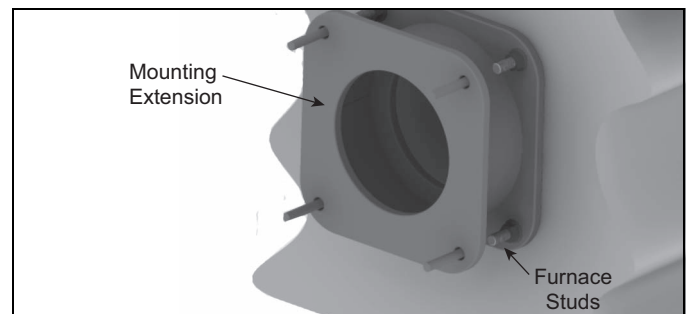

Figure 3.5.1
4. Bolt mounting extension to the furnace casing. See Figure 3.5.1
3. Bolt the V1/V3 adapter flange to the existing mounting extension. (See Figures 3.5.1 and 3.5.2.)